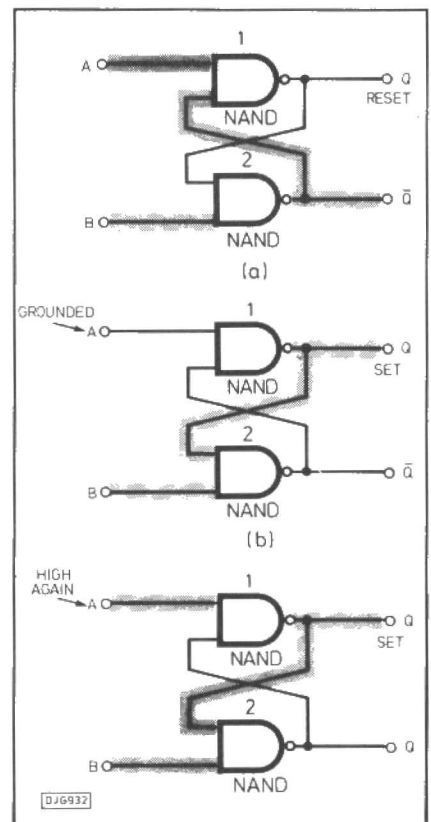

Fig 14. Action of a set-reset flip-flop
The way the flip-flop works is explained in Fig.14. Assume that it is in its *reset* state to begin with (Fig.14a) and inputs A and B are in their normal state, both high. Gate 1 has both of its inputs high, so its output Q is low. This low output is fed to one of the inputs of gate 2. Gate 2 thus has a low input (from gate 1) and a high input (B), so its output  $\bar{Q}$  is high (refer to the truth table for NAND if you are not clear about this).